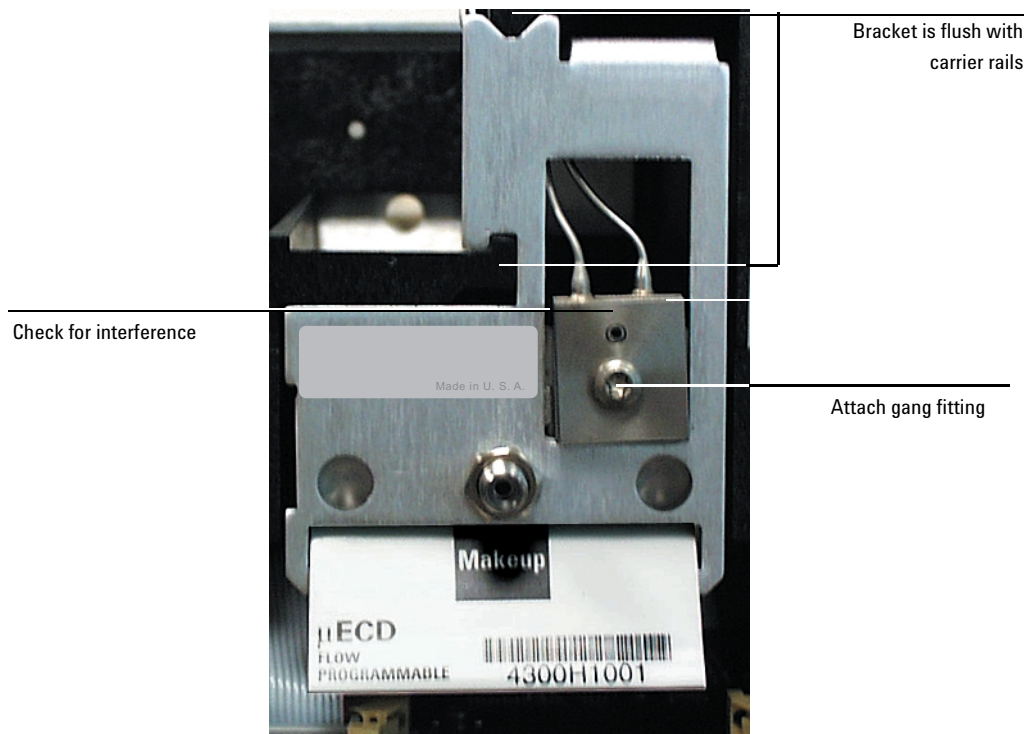

Figure 341-12 Manifold, after installation
4. If the tubing from the gang fitting bends to the left, reshape it so that it bends up and back from the block as shown in Figure 341-12.
7. Route the gas tubing behind the manifold, over the top of the chassis, and through the slots as shown in Figure 341-12.